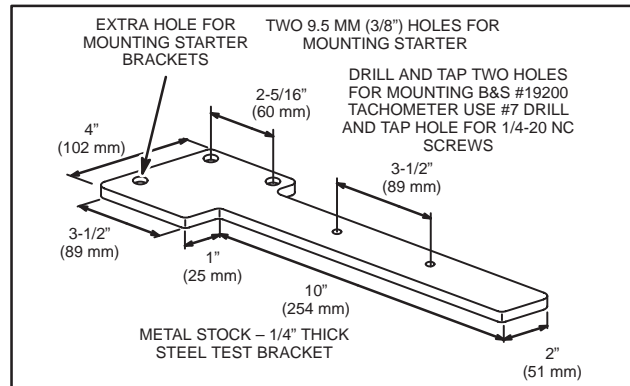
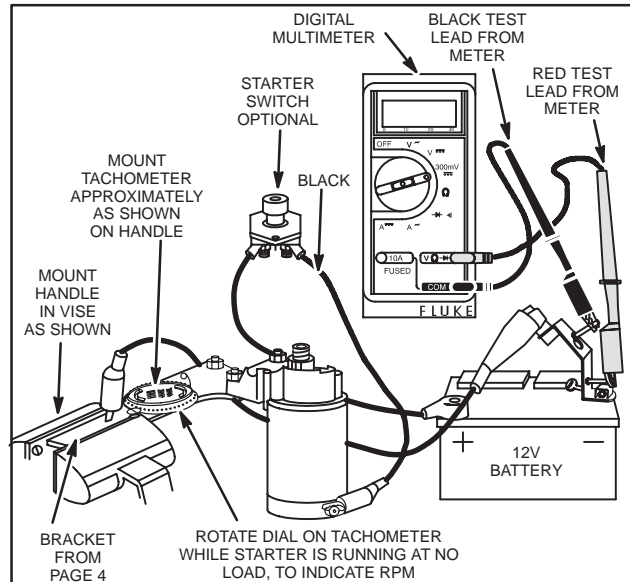

Fig. 9 – Starter Motor Test Bracket
Fig. 10 – Testing 12 Volt Starter Motor Digital Multimeter & DC Shunt
A starter motor test bracket may be made as shown in Fig. 9. Tachometer may be mounted to test bracket. A growler or armature tester is available from an Automobile Diagnostic Service supplier.
Remove blower housing and flywheel from engine. Refer to Section 2 for flywheel removal procedure. Remove two (2) starter motor mounting screws. Assemble starter motor to test bracket (Fig. 9), and clamp test bracket in vise, Fig. 10.
1. The DC Shunt **MUST** be installed on the **negative** (-) battery terminal as shown in Fig. 10.